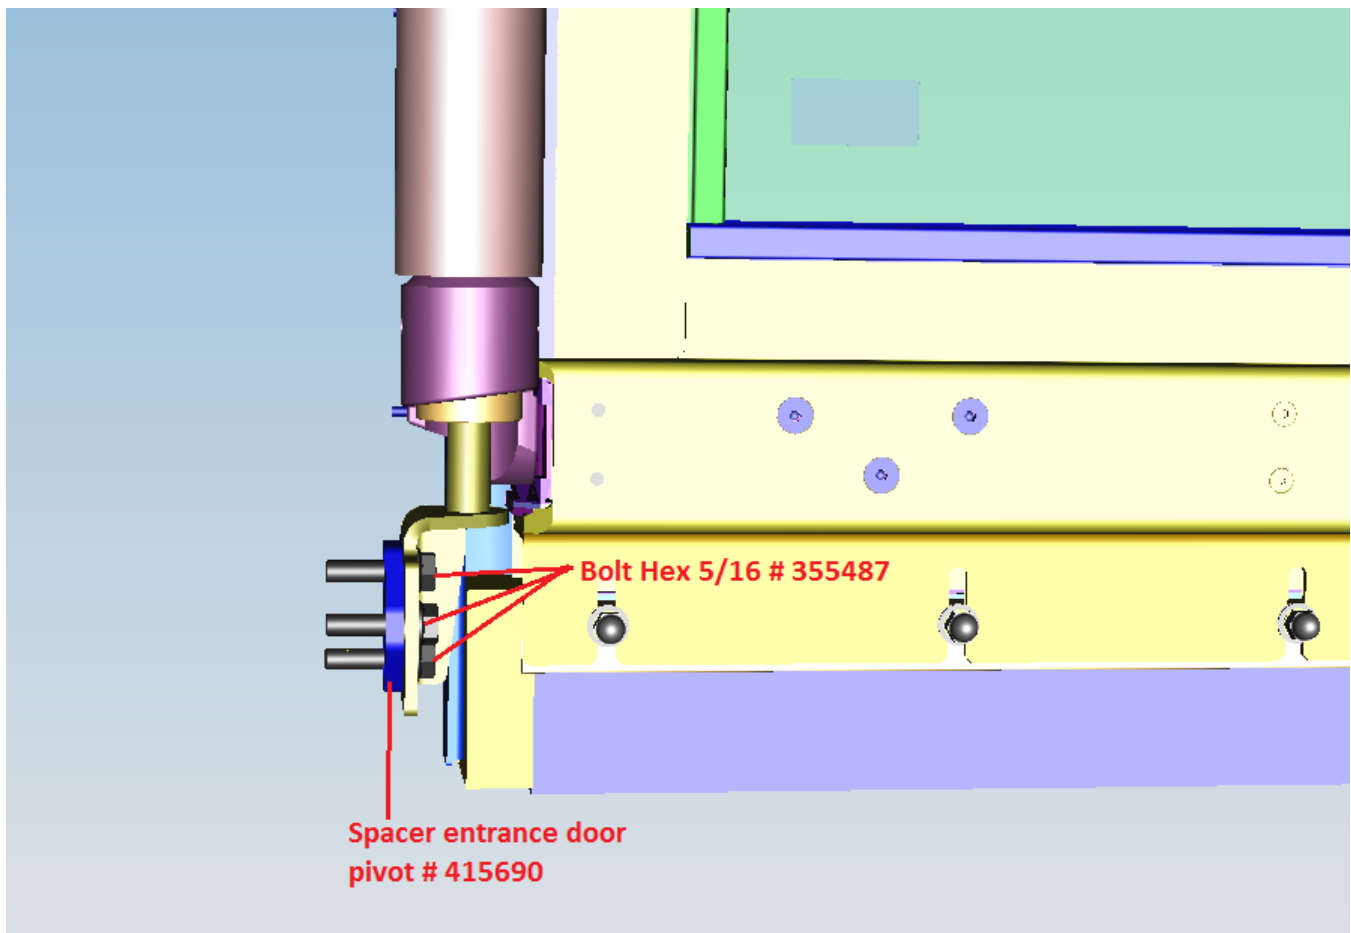

Figure 1: Entrance Door Shaft Pivot Spacer Installation.
4. Install entrance door spacer (NF PN: 415690) and secure using 3ea. 5/16 hex bolts (NF PN: 355487). Torque bolt to 17 ft-lbs. See figure 1.